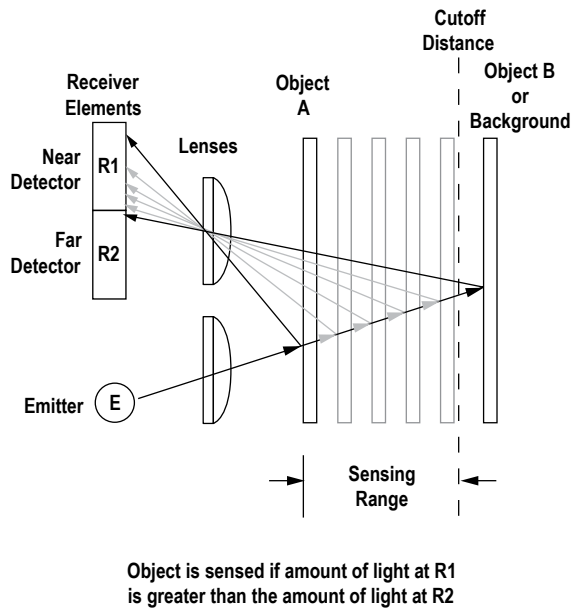

Figure 1. Fixed-Field Concept
The QMT...FF... compares the reflections of its emitted light beam (E) from an object back to the sensor's two differently aimed detectors, R1 and R2. See Figure 1 on page 2. If the near detector's (R1) light signal is stronger than the far detector's (R2) light signal (see object A in the Figure below, closer than the cutoff distance), the sensor responds to the object. If the far detector's (R2) light signal is stronger than the near detector's (R1) light signal (see object B in the Figure below, beyond the cutoff distance), the sensor ignores the object.